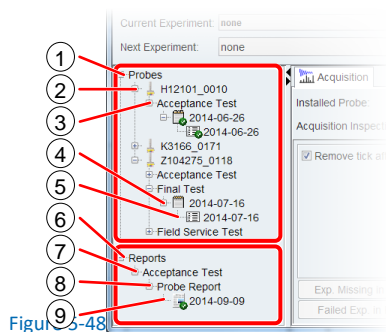

Figure 5-48
The Navigation panel on the left in *NMRPT* window is structured into the main sections **Probes** (Figure 5-48 (1)) and **Reports** (Figure 5-48 (2)). Both sections are divided into individual subnavigations. Expand either Probes or Reports navigation item to access the corresponding subnavigation. Context menus for the Navigation entries provide short access to operations also provided in Edit menu.
- (2) **Probe**  Click a Probe item (Figure 5-48 (2)) to open the corresponding Probe Setup Tab in Workspace. Each probe item is named by its Probe ID, a unique identifier composed of part and serial number of the probe.
- (3) **Test Mode** Expand a Probe item (2) to access the subordinated Test Mode navigation items (Figure 5-48 (3)). These items provide grouping of the Inspection Lots of a probe according to their Test Mode (Final Test, Acceptance Test, Field Service Test).
- (4) **Inspection Lot**  Expand a Test Mode item (3) to access the subordinated Inspection Lot items (Figure 5-48 (4)). Click an Inspection Lot item open the corresponding Inspection Lot Tab in Workspace. Inspection Lot navigation items are listed by their name.
- (5) **Results**  Expand an Inspection Lot item (4) to access its Result item. Click the Result item (Figure 5-48 (5)) to open the corresponding Results Tab in Workspace. Result navigation items are listed by the Inspection Lot name.
- (7) **Test Mode** The Test Mode navigation items (Figure 5-48 (7)) provide grouping of the Report Types in each Test Mode (Final Test, Acceptance Test, Field Service Test).
- (8) **Report Type** Expand a Test Mode item (7) to access the subordinated Report Type navigation items (Figure 5-48 (8)). These items provide grouping of the reports.
- (9) **Report**  Expand a Report Type item (8) to access the subordinated Report items (Figure 5-48 (9)). Click a Report item to open the corresponding Report Tab in Workspace. Report navigation items are listed by their name.